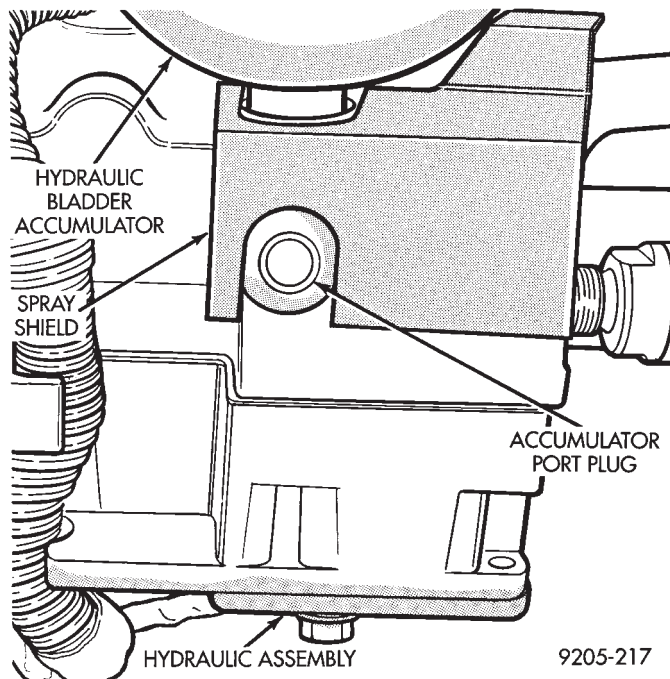

Fig. 1 Hydraulic Assembly Accumulator Port Plug Location
Some diagnostic procedures in this manual require the use of the MST-6163 pressure gauge and adaptor (Fig. 1) to measure accumulator pressure during certain phases of operation. The pressure gauge and adaptor should be installed as follows:
(2) Remove hydraulic assembly accumulator port plug, located on right hand side of hydraulic assembly (Fig. 1).